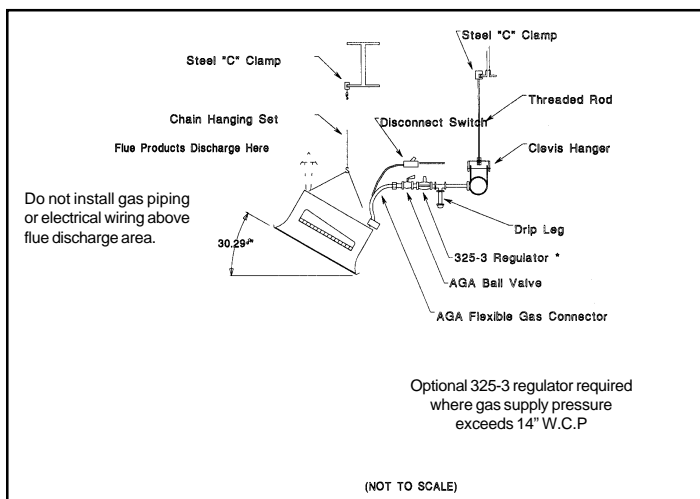
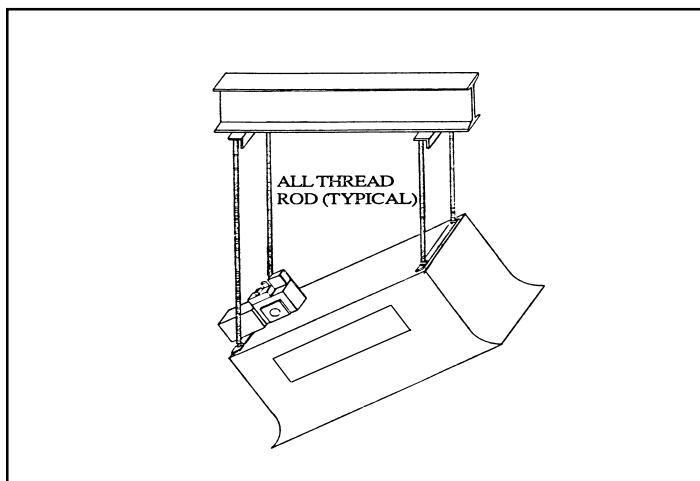

Figure 2.1 TYPICAL HEATER MOUNTING
Figure 2.2 RIGID HEATER MOUNTING
- Figures 2.1 and 2.2 illustrate the more commonly used methods for heater mounting. Figure 2.1 shows the fastest and most economical method. Some local codes or application conditions, such as drafts that could cause units to swing, stipulate that if flexible gas connectors are used then the heaters must be rigidly mounted (Figure 2.2)